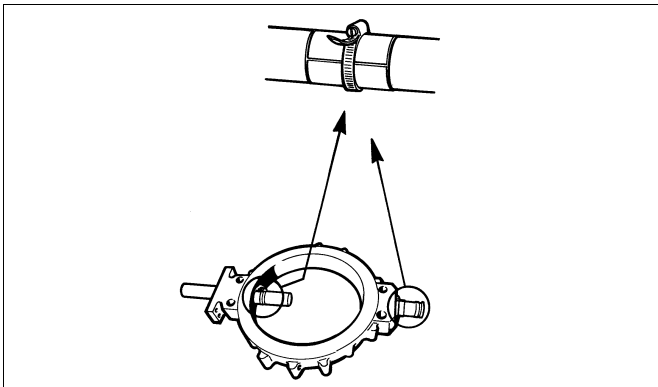

Fig. 16. Mounting the H-construction bearings
- ❑ **H-construction:** Mount the bearing into the shaft. Spray a thin layer of dry lubricating fluid, e.g. Molykote 321R or equivalent, into the inside surface of the bushing and the shaft bearing groove. Press the bushing with a tightening ring into the shaft bearing groove and fit the shaft with the bearings carefully into the body through the tightening ring (see Fig. 16).